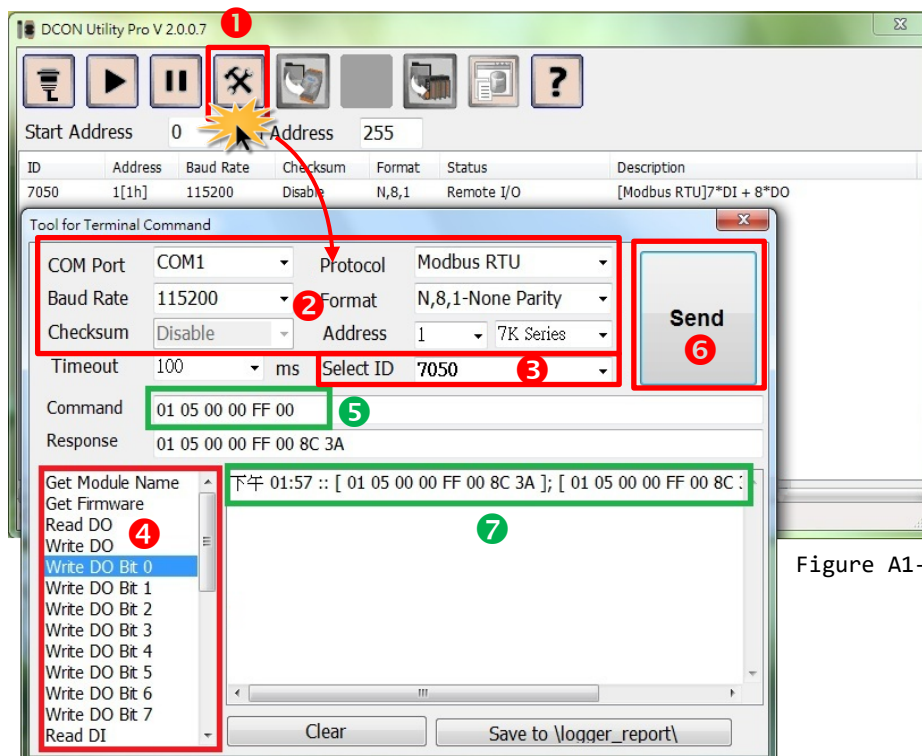

Figure A1-1
- ❶ In the DCON Utility Pro tool (see Section 4.1 “Configure the Modbus RTU Device” for more details), click the **“Command Line”** button to open the **“Tool for Terminal Command”** dialog box.
- ❷ Select the appropriate **COM Port, Baud Rate, Format and Address** settings from the relevant drop down options, as shown in Figure A1-1 below.
- ❸ Select the **name of the module** from the **“Select ID”** drop down options. Once selected, all the commands relevant to the module will be displayed in the Command Panel on the left of the dialog box.
- ❹ Click the desired **command** in the panel to select it, and the Modbus RTU code (without checksum) will be given in the Command test field.
- ❺ Copy the Modbus RTU command to the configuration data file (commands.txt).
- ❻ Click the **“Send”** button.
- ❼ The Modbus RTU command together with the response will be displayed in the Output Panel.